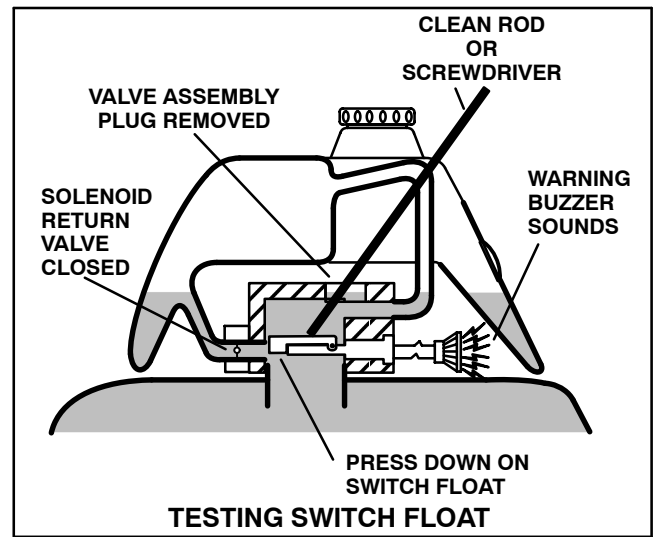

Figure 40
4. Insert clean rod or screw driver into valve assembly and gently push down on switch float (Fig. 40). Alarm should sound after one (1) second delay.